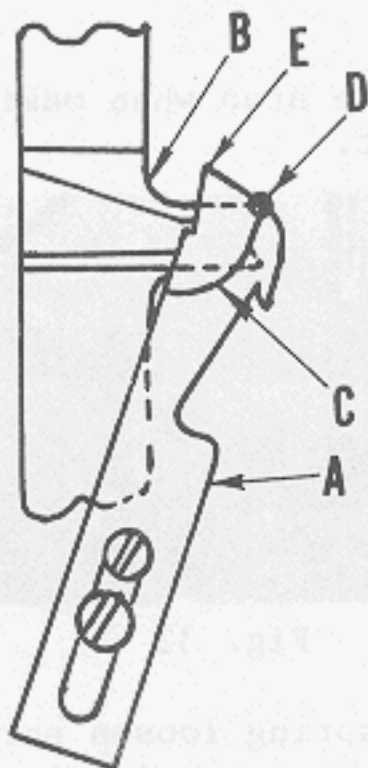
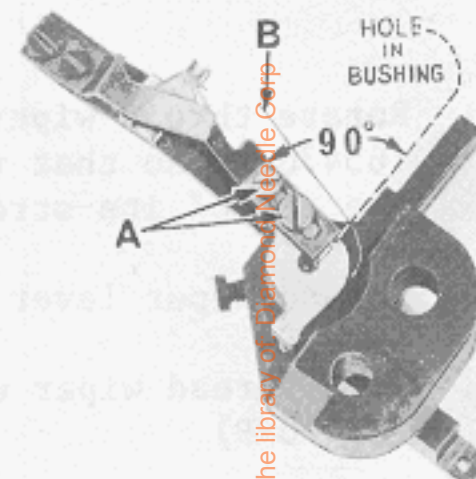
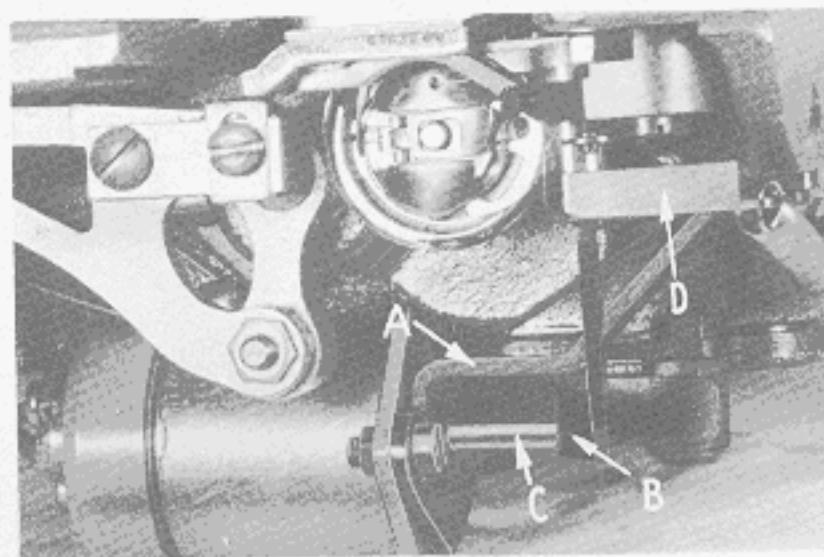
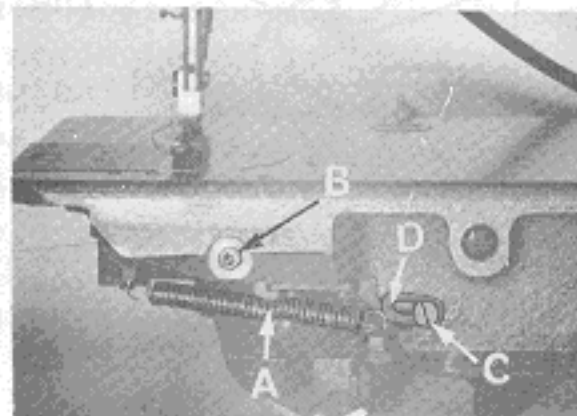

Fig. 29
Fig. 30
Fig. 31
Fig. 32
If this is not so, loosen the finger set screw (E) and turn the eccentric bushing (F) until the knives are parallel. A good starting point would be to have the pin hole in the eccentric bushing (F) located approx. 90° to the right side of the arm of the positioning finger (Fig. 30).
The lower knife (A, Fig. 29) in its extreme left position should not extend beyond the left side of the arm of the positioning finger (B). As the lower knife moves to the right, the run out of the cutting edge (C) must coincide at a point of the positioning finger as indicated at point (D). To make these adjustments loosen screws (A, Fig. 30) and position knife.
4. Locate the cutting solenoid bracket (A, Fig. 31) as far forward as possible and parallel with the line of feed. With the cutting solenoid lever (B) contacting the cutting solenoid plunger (C), adjust the pivot release lever (D), so that there is a 1/32 inch (.79 mm) clearance to be maintained when knife return spring (A, Fig. 32) is in position.
5. Adjust the lower knife stop screw (B, Fig. 32) so when the lower knife in its extreme right hand position, the left corner (E, Fig. 29) is in line with the left side of the needle slot in the bobbin case holder.
6. Be sure the spring retainer wire (B, Fig. 30) contacts the bobbin case holder when the lower knife is in its extreme right hand position. If the spring wire does not make contact, bend retainer wire to suit.
7. Knife return spring (A, Fig. 32) to have proper tension to cut threads. To adjust tension of knife return spring loosen screw (C) and move tension spring bracket (D) to the right to increase tension or to the left to decrease the tension.